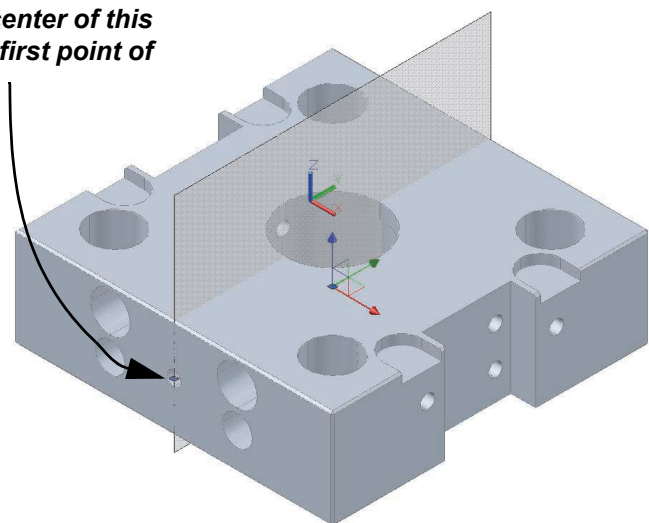

Figure 8–14
4. Select the new section plane. Right-click and ensure that **Activate live sectioning** is checked. Press <Esc> to clear the selection and view the sectioned object, as shown in Figure 8–15.